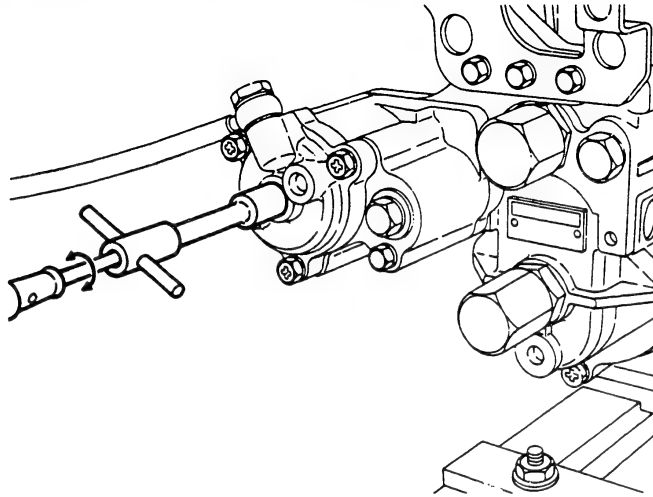

Fig. 168 Setting the boost compensator spring force
- 2) Adjust the screw (62) so that the control rack begins moving from R_1 mm in the fuel increase direction when the boost pressure reaches P_1 mmHg.
Lock the screw with the nut (63). (Figs. 168 and 169)